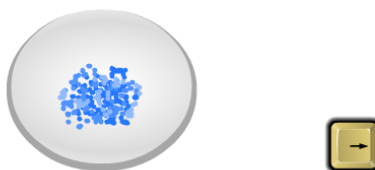

Figura 1. Simulador *Determination of the formula of a hydrate*.
- Abra el simulador **Determination of the formula of a hydrate** (figura 1).